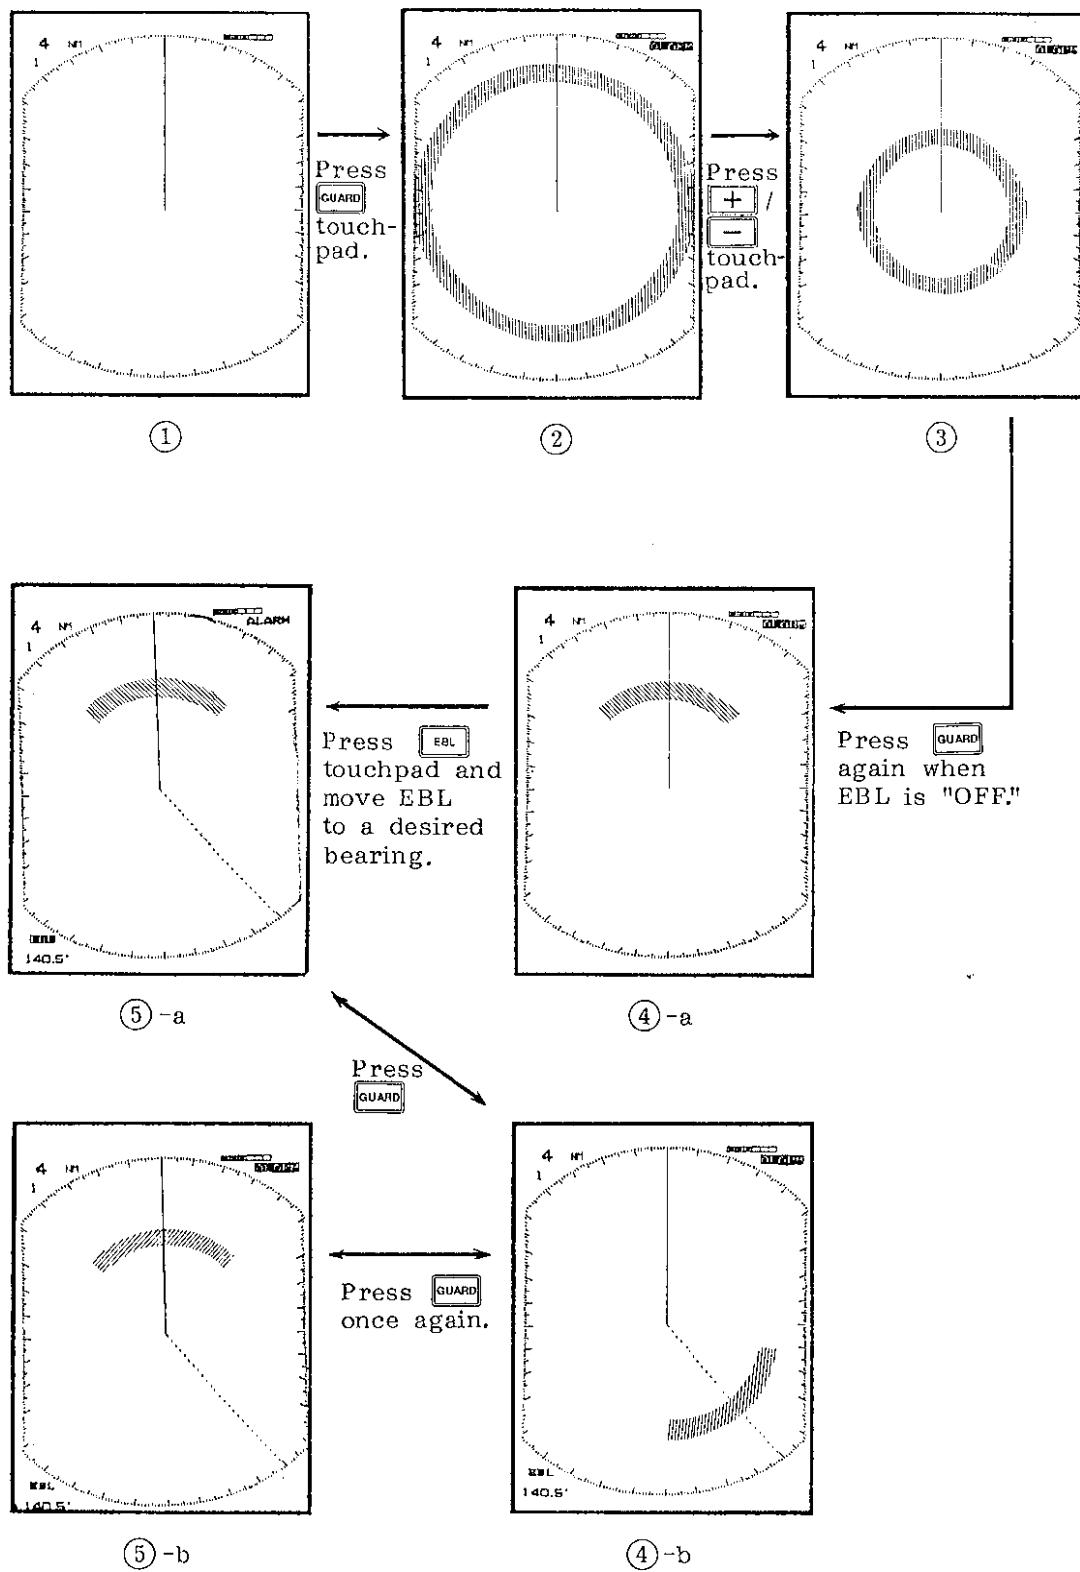

Fig.2-9 Setting the Alarm
1. Press the **GUARD** touchpad once. The indicator "ALARM" (framed with a white light) appears on the upper right-hand side of the screen and a 360° doughnut-shaped guard ring is displayed (Fig.2-9②). Table 2-2 shows the initial guard area to be displayed.
2. The distance to the guard zone may be changed by the **+/-** touchpad. See Fig.2-9③. If you want to set a 90° sector alarm, 45° on either side of the heading mark or the EBL, proceed to step 3.
3. Press the **GUARD** touchpad again and the guard zone changes to a 90° fan-shaped sector, bisected by the heading mark. See Fig.2-9④-a.
4. If you want to change the guard zone location, press the **EBL** touchpad followed by **+/-** touchpads to set the EBL on the bearing desired for the center of the guard zone. See Fig.2-9⑤-a.
5. Press the **GUARD** touchpad and the guard zone drawn up in step 4 is brought up on the screen (Fig.2-9④-b.).